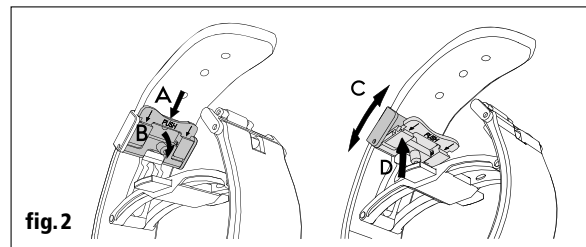

fig.2
Adjusting the length (fig. 2): press down on the pusher labeled "PUSH" in the direction of arrow (A) and loosen the strap end (B). Slide the strap within the cover to place it in the desired setting position (C). Press down on the mobile system to lock it, ensuring that the hole is placed over the stud so that you do not damage the strap end (D). Try the watch for size and readjust if necessary.
Closing (fig. 2): put your OMEGA watch on your wrist and fasten the clasp until you hear a click.